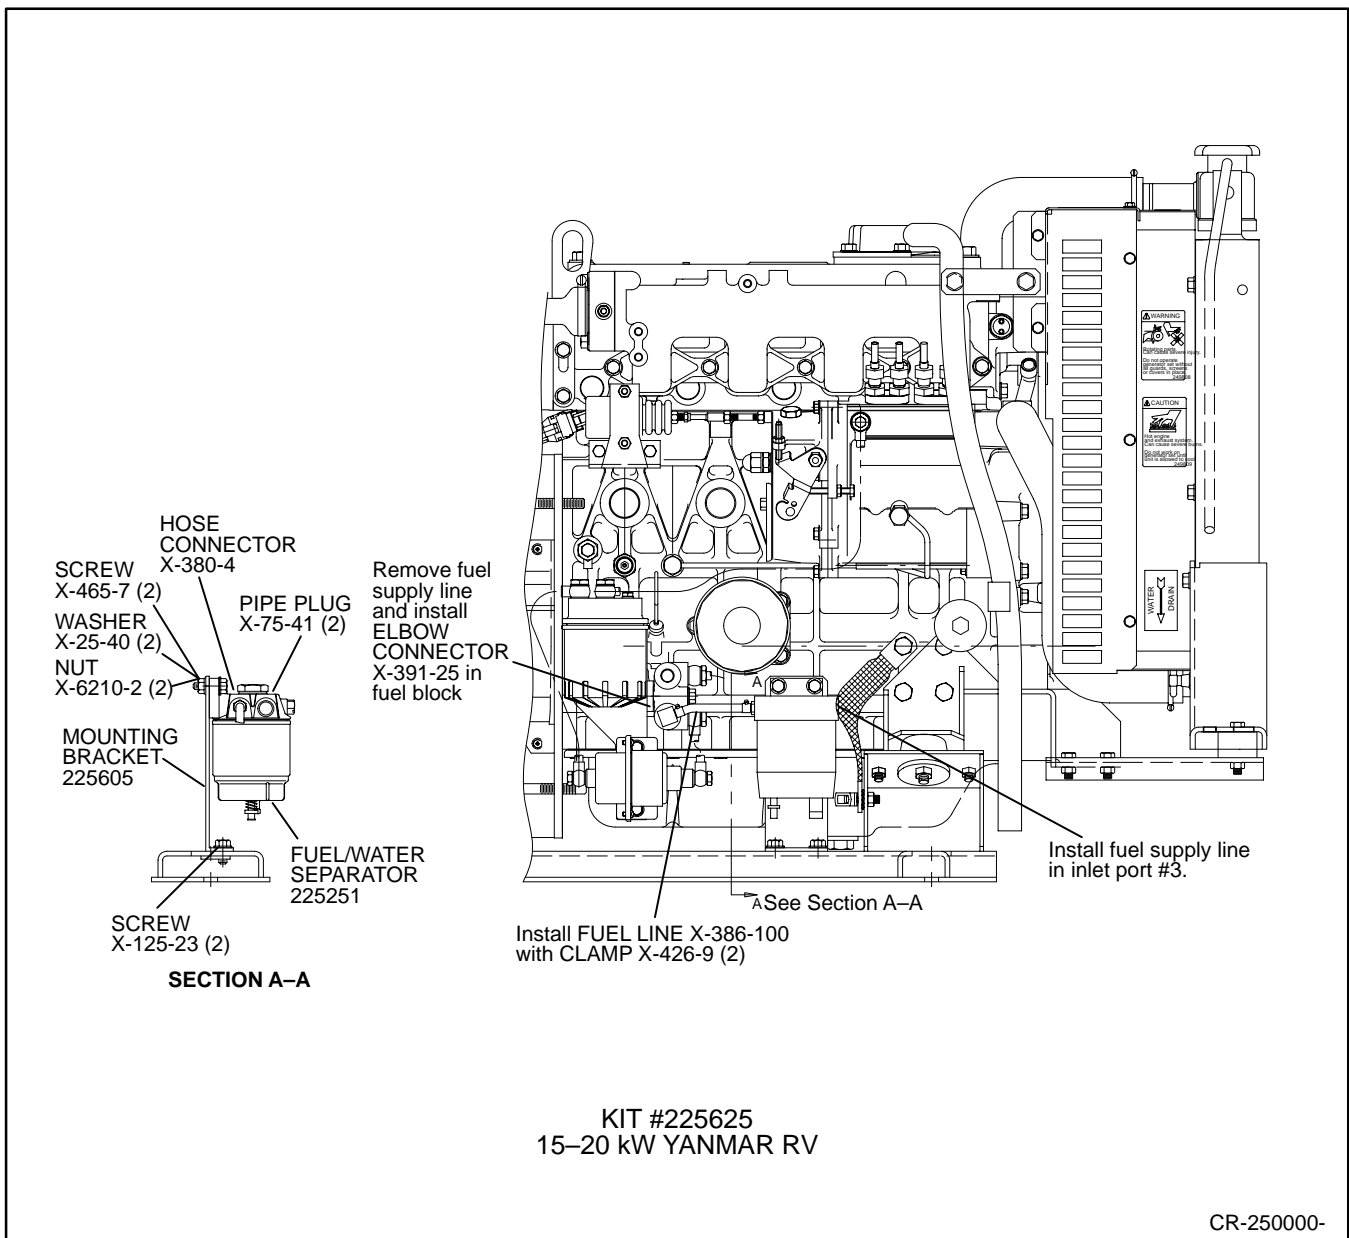

Figure 1. Installing Fuel/Water Separator
3. Install bracket (225605) on generator skid with two 5/16-18 x 0.62 in. screws (X-125-23). See Figure 1.